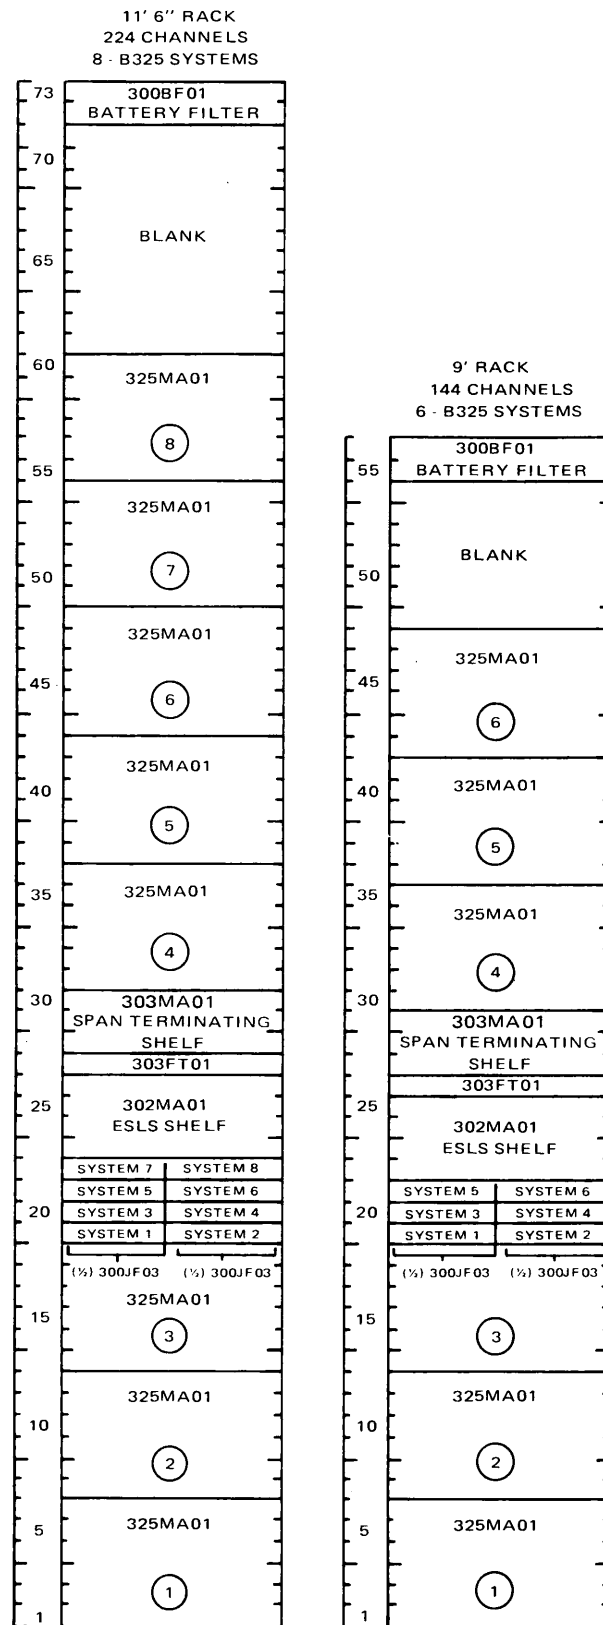

Fig. 8—Rack Profiles (11' 6" and 9' Racks) with Ancillary Equipment
4.01 Fig. 8 shows a typical rack profile (for 9-foot racks and for 11-foot 6-inch racks) that contains six and eight B325 terminals and the associated T-1 span equipment.